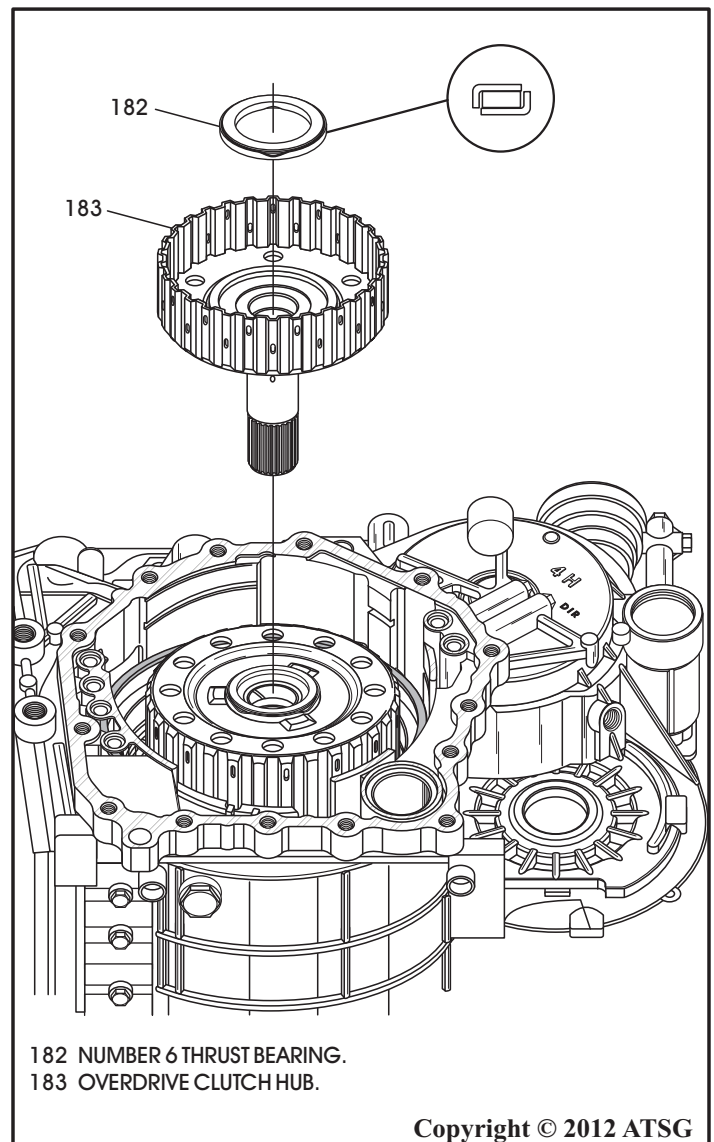

Figure 262
48. Install the overdrive clutch hub, as shown in Figure 262.
49. Install number 6 thrust bearing in the direction shown in Figure 262, and retain with a small amount of Trans-Jel®.